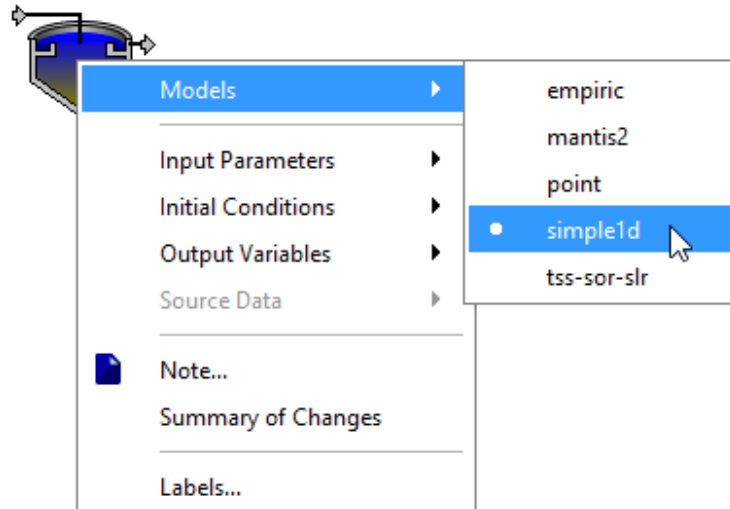

Figure 4-2 – Selecting a Model
2. **Select the *Models* item.** This will cause a hierarchical menu to be displayed as shown in **Figure 4-2**.